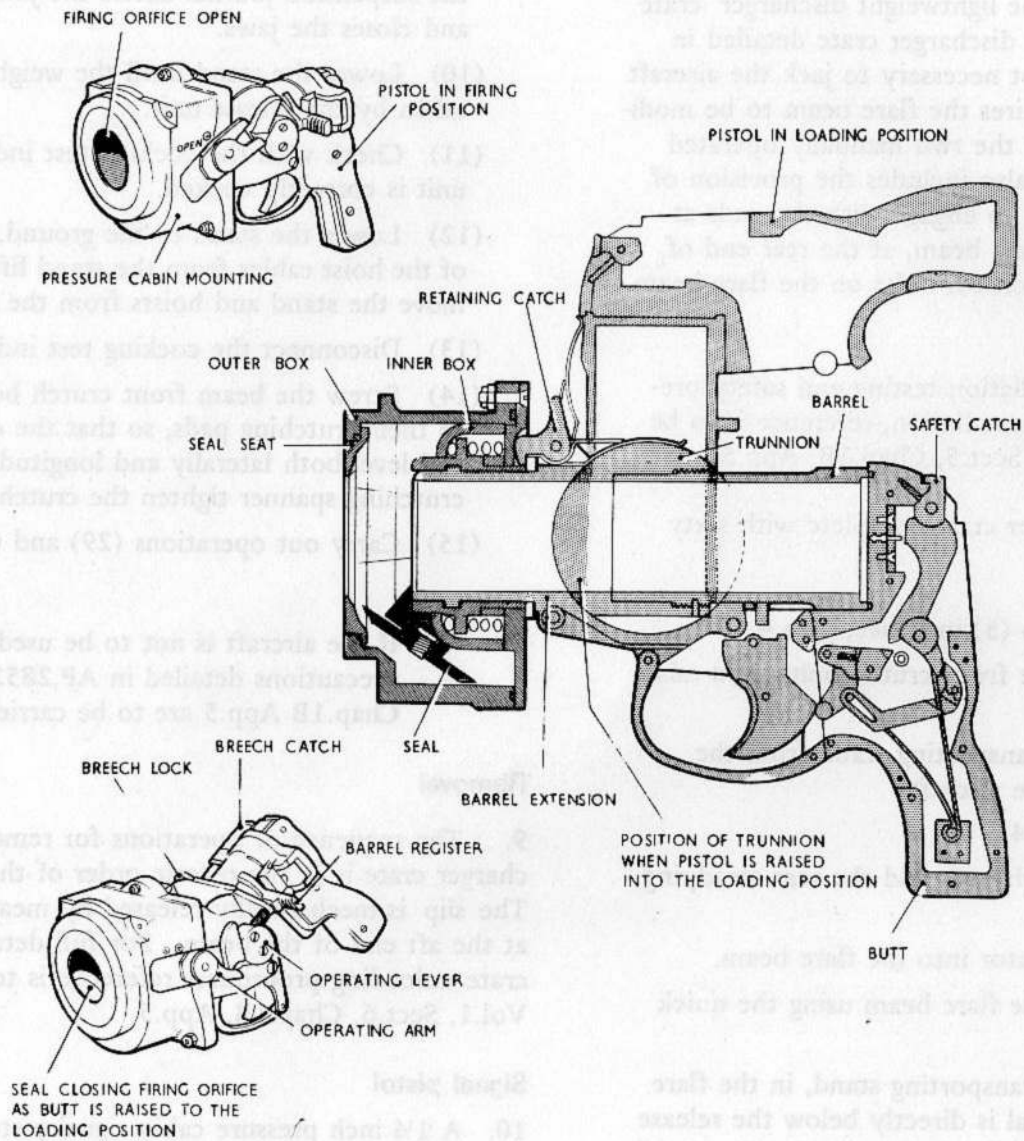

Fig.4 Signal pistol and mounting
10. A 1½ inch pressure cabin signal pistol Mk.2 is fitted, fig.4, into a sealed mounting which is let into the skin of the aircraft.